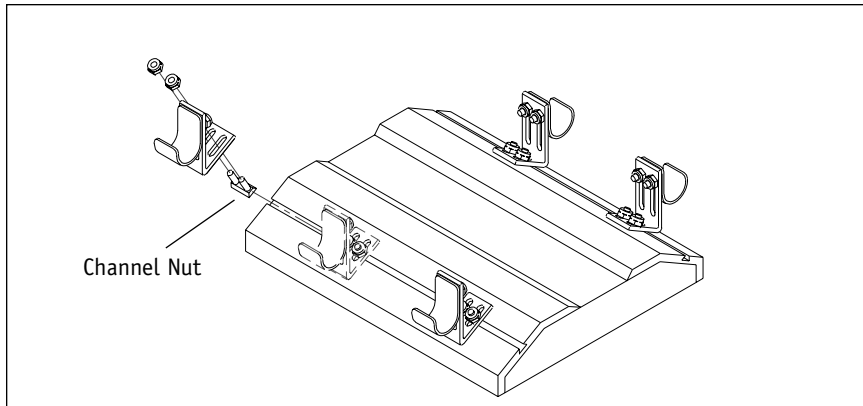

Figure 3
3. Slide the channel nuts into the track as shown (Figure 3) and hand tighten so that the assemblies may be adjusted to the desired final position. Repeat for each assembly.